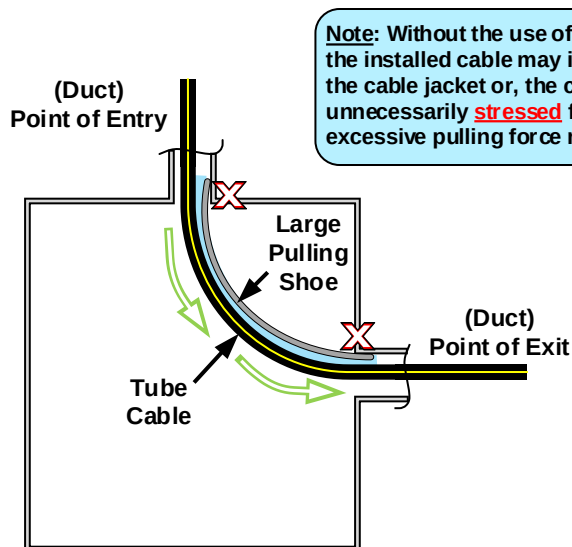
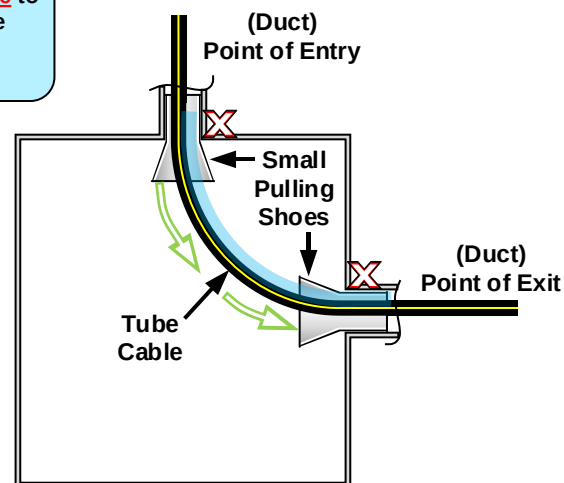

Figure 21
Figure 22
17.1.4 If available, use Large or Small Pulling Shoes to help Tube Cable negotiate the turns and exposed bends. Ensure the minimum bend radius requirement of 20X Tube Cable OD is maintained with respect to the size / radius of Large Pulling Shoe or placement of Small Pulling Shoes. **See Fig. 21 and Fig. 22.**
17.2.6 If available, use Large or Small Pulling Shoes to help Tube Cable negotiate turns and exposed bends. Ensure minimum bend radius requirement of 20X Tube Cable OD is maintained with respect to the size / radius of Large Pulling Shoe or placement of Small Pulling Shoes. **See Fig. 21 and Fig. 22.**